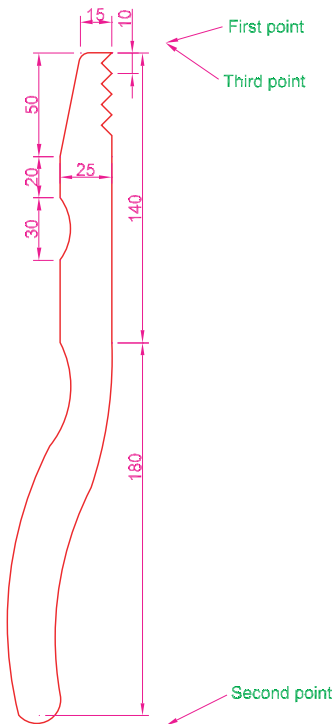

Fig. 15.16 First example – **Mirror 3D** – outline of object to be mirrored
- Working on a layer colour magenta, construct the outline in Fig. 15.16.